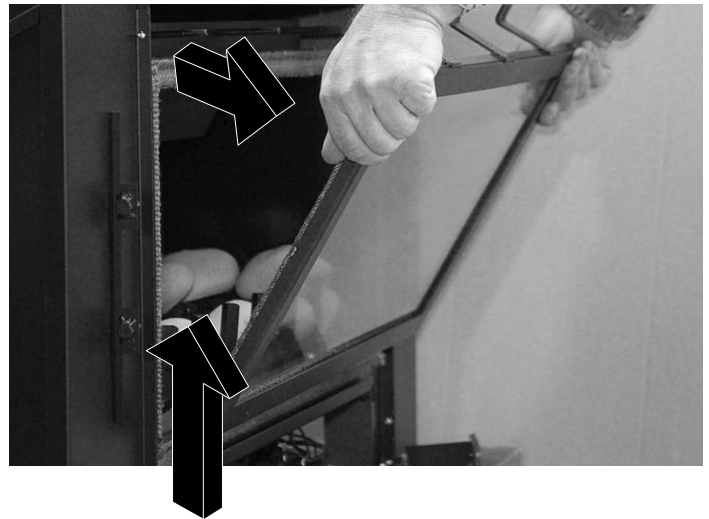

Figure 16 - Removing Glass Door
2. Carefully remove the glass door. See Figure 16.